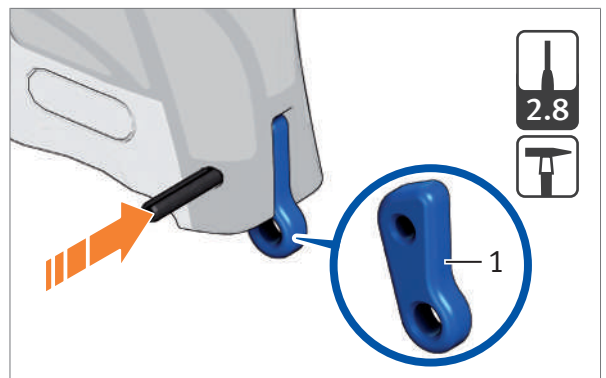

Fig. 29: Insert the mounting for the lanyard
2. Insert the mounting for the lanyard (Fig. 29).
3. Drive in clamping sleeve for back strap (Fig. 29).